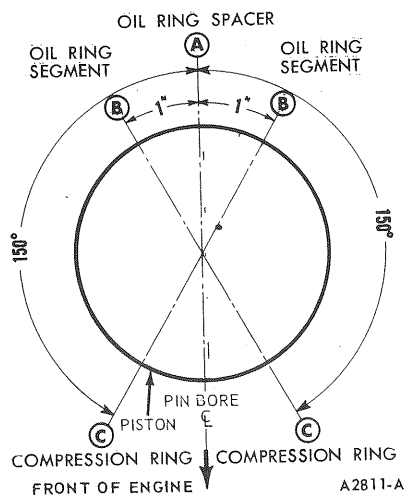

FIG. 63 Piston Ring Spacing
Lubricate the journal with heavy engine oil SE and install the thrust bearing cap with the bolts finger tight. Pry the crankshaft forward against the thrust surface of the upper half of the bearing. Hold the crankshaft cap to the rear. This will align the thrust surfaces of both halves of the bearing. Retain the forward pressure on the crankshaft. Tighten the cap bolts to specifications (Figure 63).
3. Make sure that ring gaps are properly spaced around circumference of piston (Figure 63).